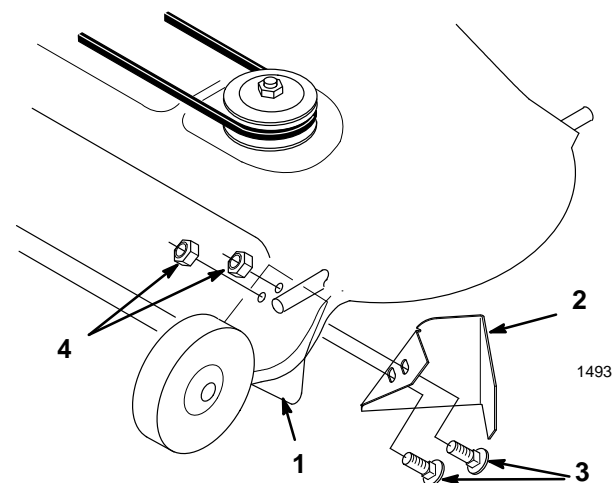

Figure 5
4. On 48" decks, secure with two 5/16" x 1" (25 mm) carriage bolts and 5/16" lock nuts (Fig. 5).